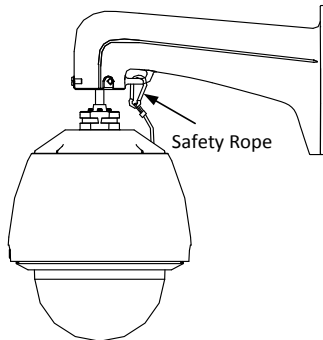

Figure 2-8 Hang the Safety Rope
- 1). Hang the safety rope to the speed dome and the hook on the bracket as shown in Figure 2-8.